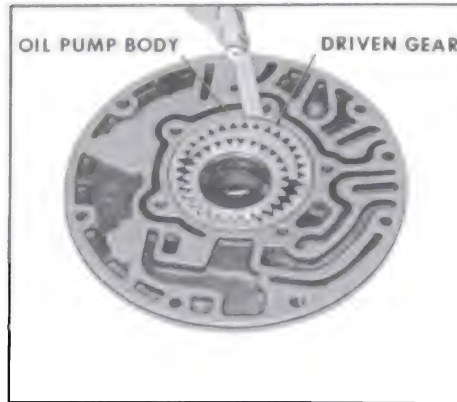

Figure 5-197
a. Check clearance between O.D. of driven gear and pump body. The clearance allowed is .0035/.0065. See Figure 5-197.